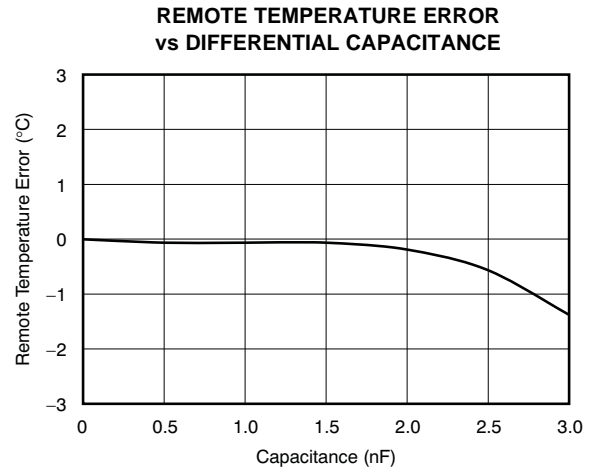

Figure 6.
(3) C_{DIFF} (optional) should be $< 1000\text{pF}$ in most applications. Selection of C_{DIFF} depends on application; see the Filtering section and Figure 6, *Remote Temperature Error vs Differential Capacitance*.
- (1) Diode-connected configuration provides better settling time. Transistor-connected configuration provides better series resistance cancellation.
- (2) R_S (optional) should be $< 1.5k\Omega$ in most applications. Selection of R_S depends on application; see the Filtering section.
- (3) C_{DIFF} (optional) should be $< 1000pF$ in most applications. Selection of C_{DIFF} depends on application; see the Filtering section and Figure 6, Remote Temperature Error vs Differential Capacitance.
- (4) TMP422 SMBus slave address is `1001 100` when connected as shown.
The TMP421/22/23 tolerate differential input capacitance of up to 1000pF with minimal change in temperature error. The effect of capacitance on sensed remote temperature error is illustrated in Figure 6, *Remote Temperature Error vs Differential Capacitance*.